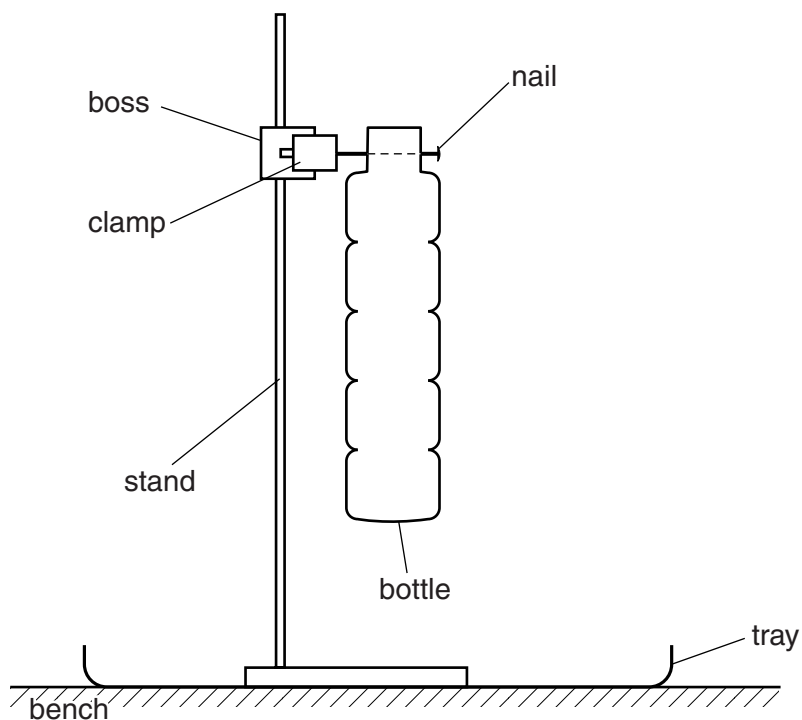

Fig. 2.2
- 2 The **candidate** will set up the apparatus as shown in Fig. 2.2. Ensure that the bottle can swing freely with this arrangement.